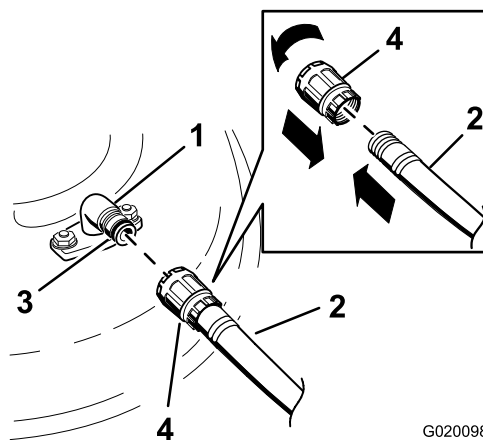

Figure 64
3. Attach the hose coupling to the end of the mower-washout fitting and turn the water on high (Figure 64).